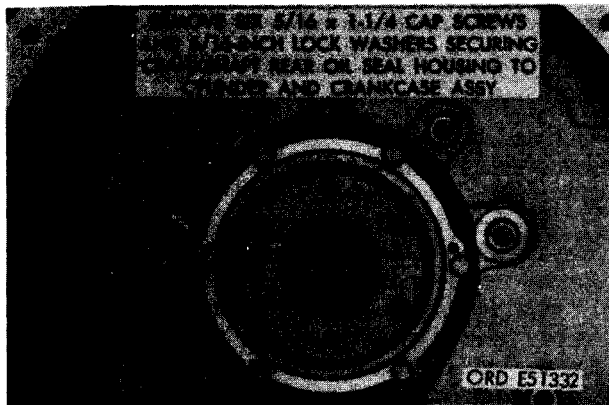

FIGURE 163. REMOVING OR INSTALLING CRANKSHAFT REAR OIL SEAL AND HOUSING ASSEMBLY CAP SCREWS.
- (3) Refer to figure 163 and remove cap screws securing crankshaft rear oil seal and housing assembly to cylinder and crankcase.
- (2) Refer to figures 163 and 164 and reverse the sequence of illustrations and instructions to install the crankshaft rear oil seal and housing assembly on the engine.